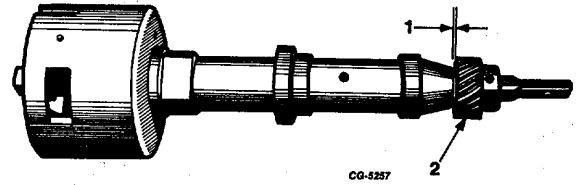

Fig. 14 Checking Distributor Shaft End Play (Thrust Washer-to-Gear Clearance)
- 6. Measure and record distributor capt end play (Figure 14). Measure end play between thrust washer and gear with shaft held "bottomed" in housing. If end play exceeds specified limits (See DISTRIBUTOR TEST SPECIFICATIONS),